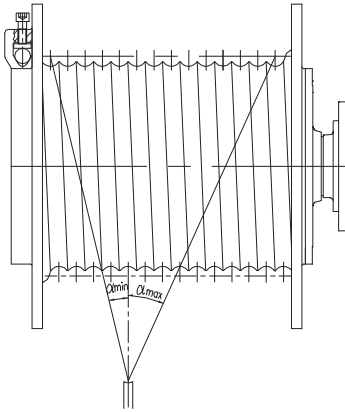

图4/ Figure 4
4.3 为了保证钢丝绳正常缠绕，要求绳偏折角 α 维持在允许范围之内（图4），应注意以下几点：
4.3 To achieve acceptable rope winding, the deflection angle α must be kept in the allowable value (figure 4) Attent the following points: